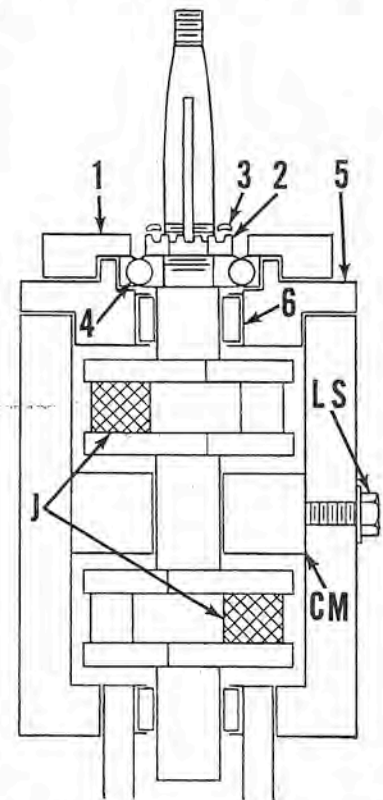

Fig. M13—Schematic view of crankcase showing method of removing and installing crankshaft. Refer to text.
Remove the center main bearing locking screw from side of crankcase and scribe a line across center main bearing and center bridge of crankcase to aid in alignment of bearing when reinstalling. Refer to Fig. M13. Place spacers or jacks (J) between counterweights of crankshaft to prevent springing or breakage of shaft. Jacks may be fashioned of brass, hardwood blocks, or a short bolt and nut may be used. Use the Mercury powerhead stand as an arbor, and press the crankshaft and center main bearing out the top of the crankcase assembly. Inspect and overhaul the power head components as outlined in the appropriate following paragraphs.
Make sure scribe lines on center main bearing and crankcase are aligned and press the crankshaft assembly in place, using the jacks (J—Fig. M13), until the threaded lockscrew hole in center main bearing is aligned with the hole in crankcase. Install and tighten the locking screw (LS). Reinstall upper bearing housing (5), bearing (4) and the crankshaft nut (2). Tighten nut until the clearance between center main bearing and crankshaft is equal at top and bottom; then align one castellation of nut with the crankshaft key slot, and install key with lower end locking the nut in position as shown.